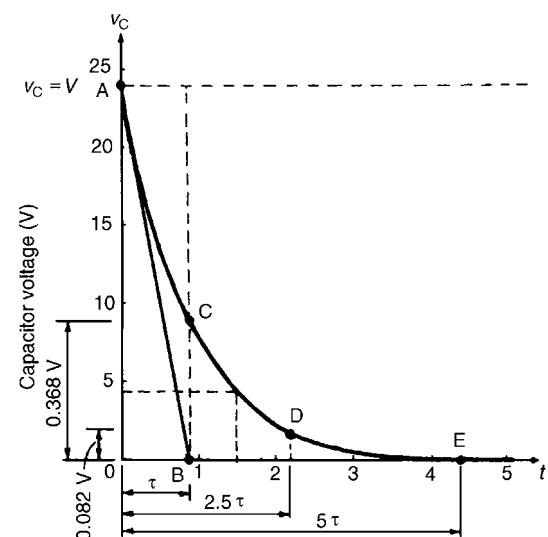

Figure 18.5
- The exponential decay of capacitor voltage is from 24 V to 0 V in a time equal to five time constants, i.e. $5 \times 0.88 = 4.4$ s. With reference to Fig. 18.5, to construct the decay curve:
- (vi) the value of the transient after a time equal to two and a half time constants is 0.082 of the initial value, i.e. $0.082 \times 24 = 1.97$ V, shown as point D in Fig. 18.5,
- (b) The voltage drop across the resistor is equal to the capacitor voltage when a capacitor is discharging through a resistor, thus the resistor voltage/time characteristic is identical to that shown in Fig. 18.5 Since $v_R = v_C$, then at 1.5 seconds after decay has started, $v_R \approx 4.4\text{V}$ (see (vii) above).